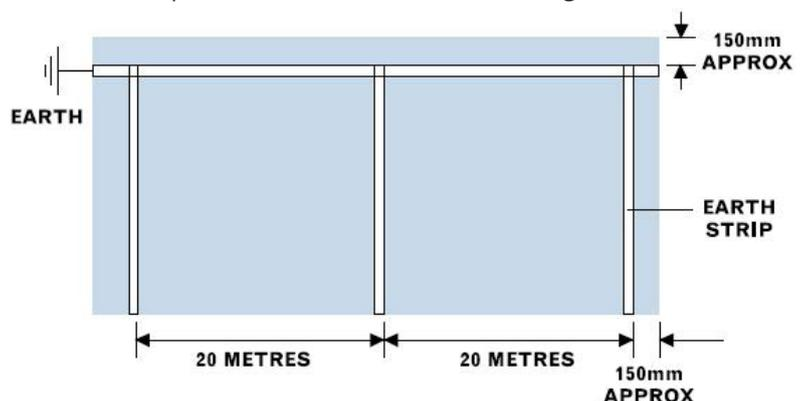

Figure 2. Earthing strip layout
- The earth strip is laid 150 mm from one side of the room, in the same direction as the vinyl sheets are to be laid. This strip is connected to a known earth (Figure 2).